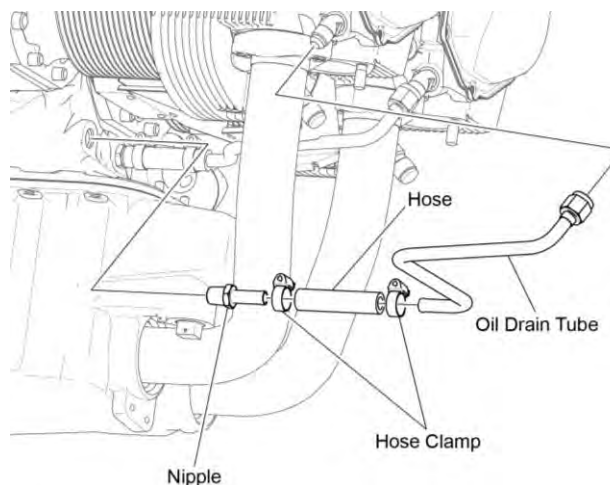

Figure 12
- (1) Remove the hose clamps (Figure 12) from the hose attached to the drain tube assembly.
- (2) Disconnect the hose from the nipple.
- (3) Disconnect the drain tube fitting from the engine cylinder.
- (4) Remove and discard the hose.
- (5) Remove the drain tube assembly from the cylinder.
- (6) Examine the drain tube for cracks or damage.
- (7) Replace a cracked or damaged drain tube assembly.